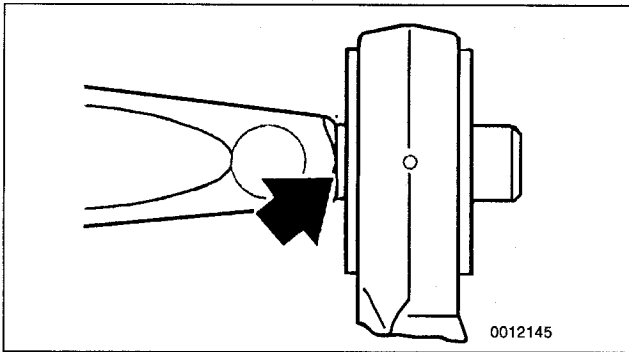

Fig. 11. Before removing bushing from control arm, mark installed position of old bushing to control arm. Install new bushing in same position.
- Mark installed position of bushing to control arm. See Fig. 11.